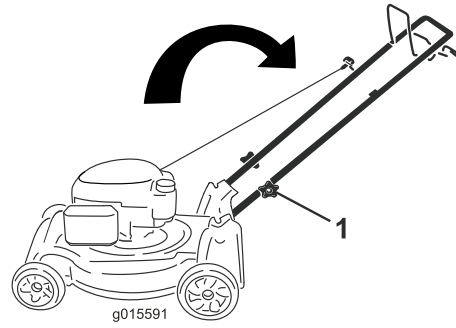

Figure 31
1. Loosen the handle knobs until you can move the handle freely (Figure 31).
1. Handle knob (2)
2. Move the handle forward as shown in Figure 31.